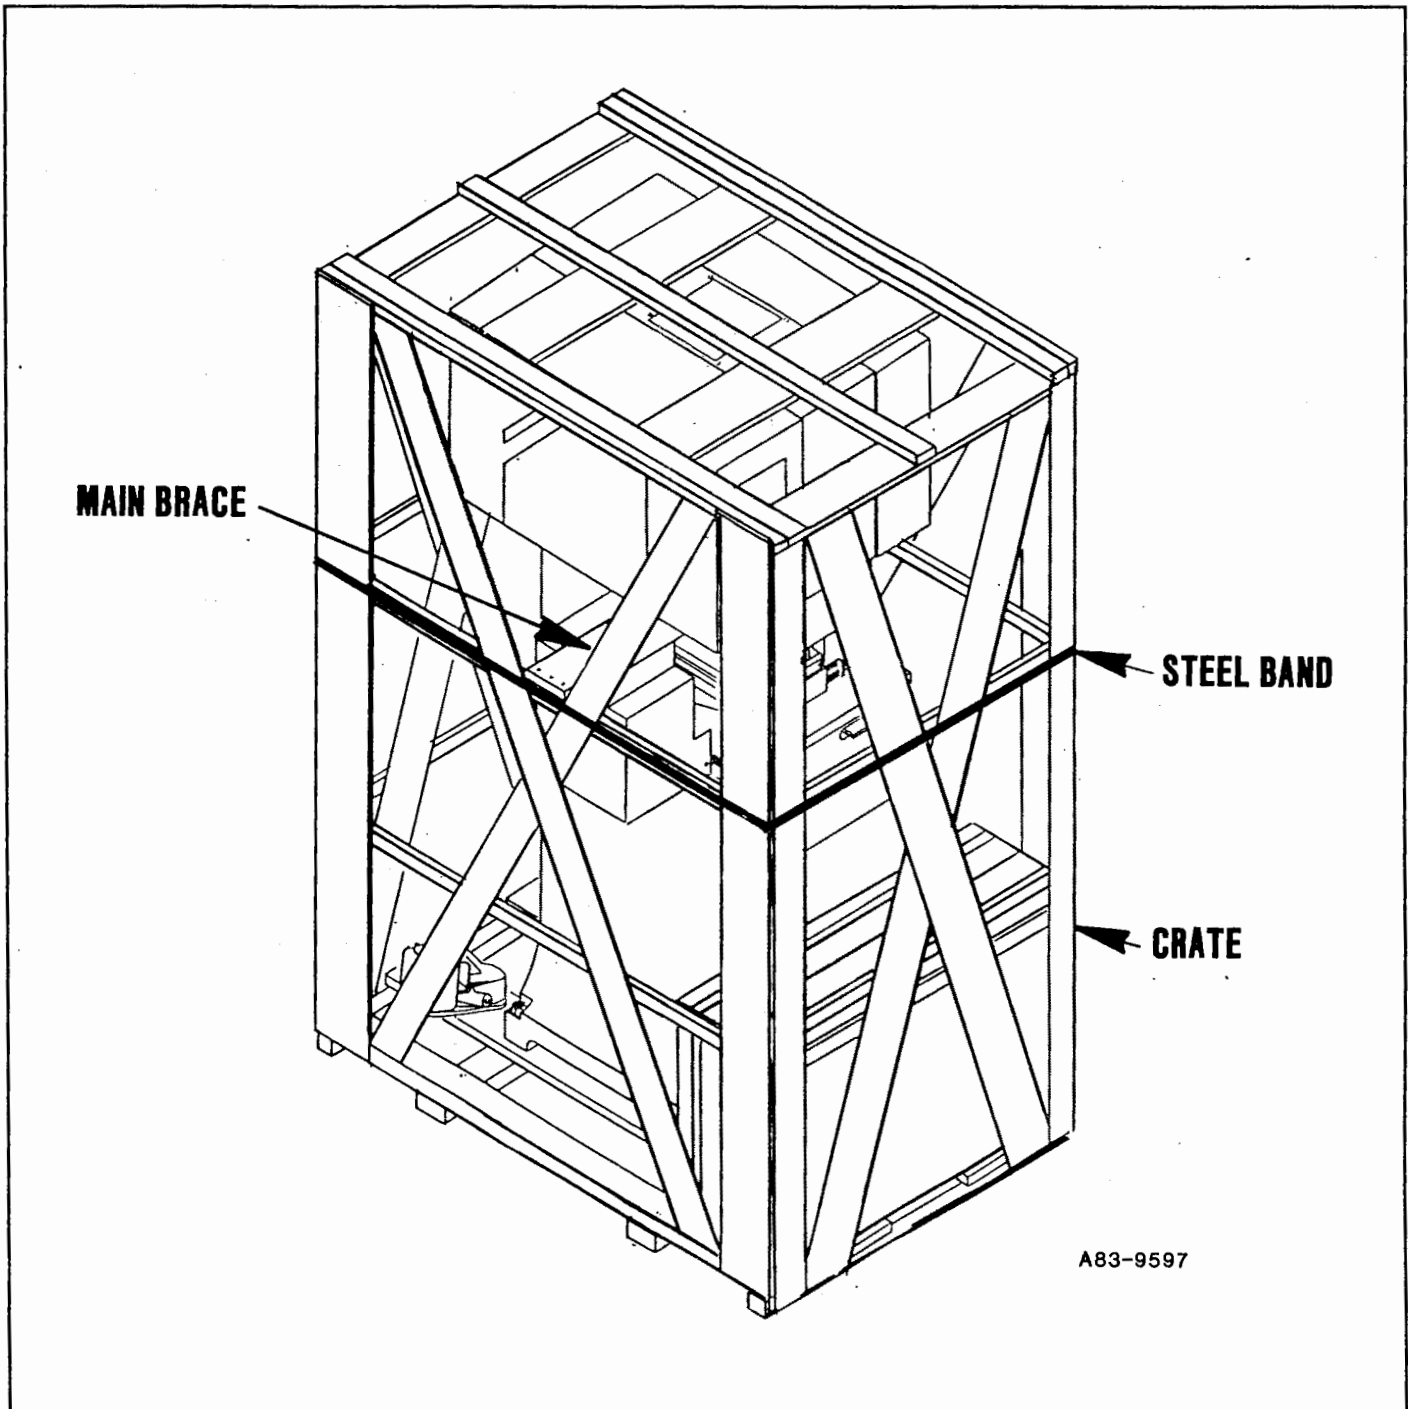

Figure 14 B
- 9. Secure accessories box to crate base with steel bands as shown in Figure 14 B.